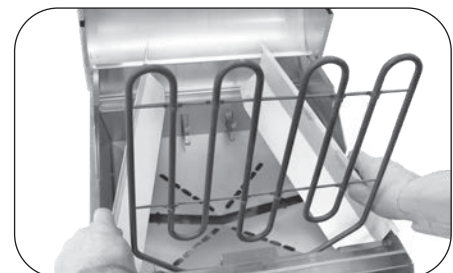

Fig. 22-3 Remove side liners
4. Lift the two side liners up and out (Fig. 22-3).